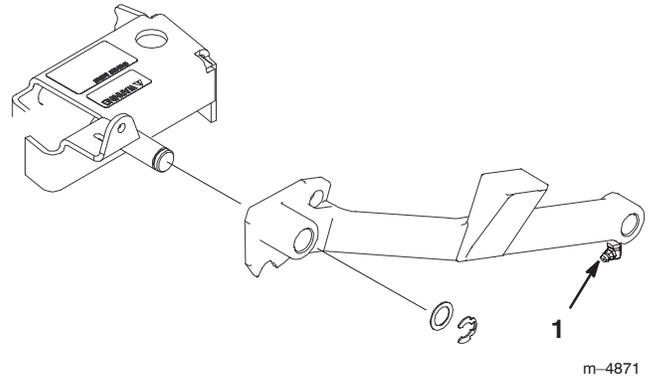

Figure 73
4. Grease the fittings on push arms (Fig. 73).